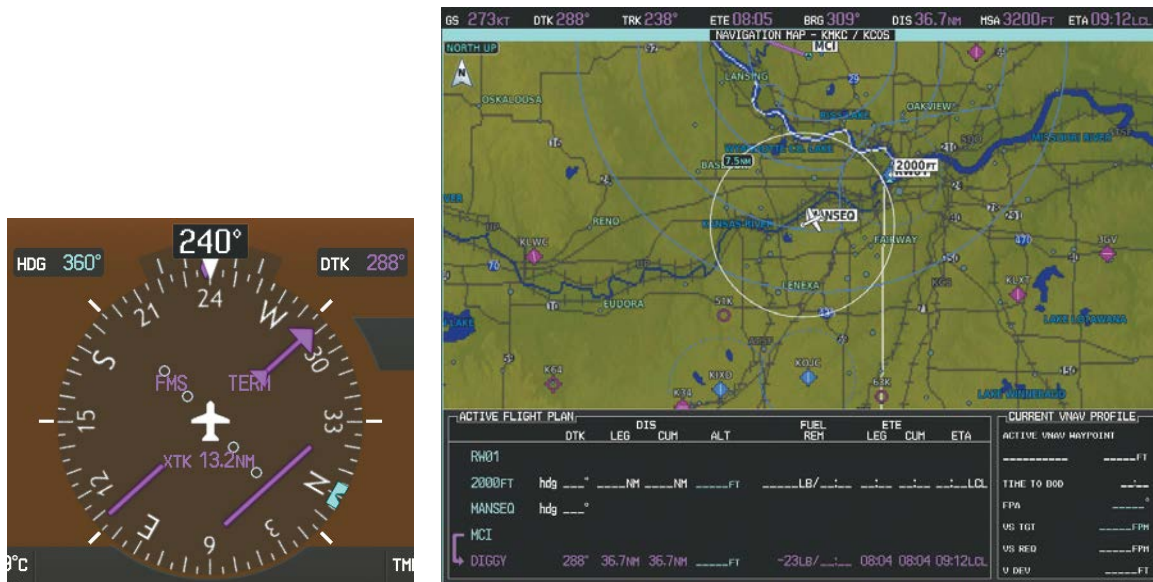

Figure 5-146 Assigned Heading of 240°
- 1) Prior to departure, the TIFTO3 departure, the airways, and the DBRY2 arrival at KCOS are loaded. See the Procedures section for loading departures and arrivals. Note the magenta arrow in Figure 5-146 indicating the active departure leg.
- 2) Figure 5-146 shows the aircraft on the assigned heading of 240°. 'TERM' (Terminal) is the current CDI flight phase displayed on the HSI indicating 1.0 nm CDI scaling.